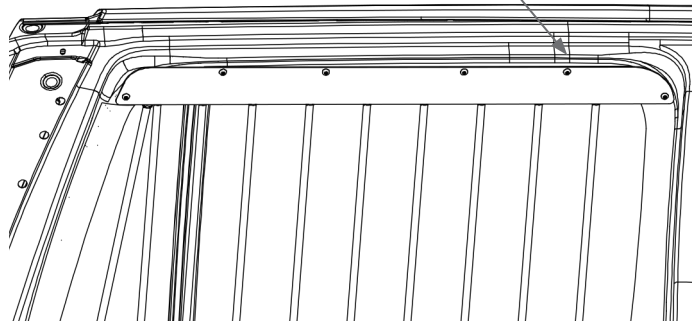

Fig. 2
D. Use a 3/32 drill bit to drill out the pilot holes for the metal screws. Use the philips head screw driver to install all securing fasteners to the vehicle. At this point the holes and and screw can be installed in the window trim to secure to vehicle. (As shown in fig. 2)